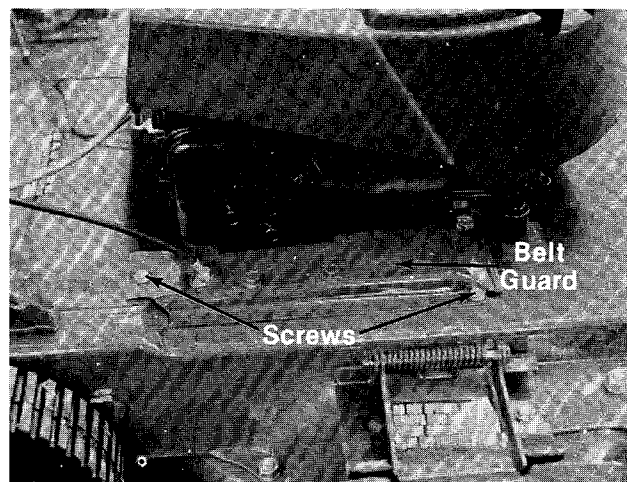

FIGURE 18.
5. Remove the two screws holding the belt guard cover on top of the deck. See figure 18.